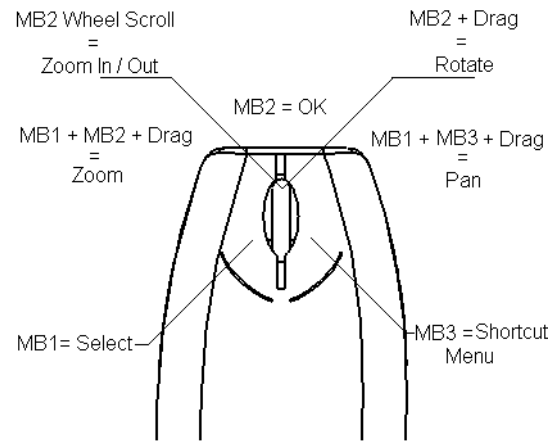

Figure 1-10 Functions of the mouse buttons
3. Press and hold the middle mouse button and then click the right mouse button to invoke the **Pan** tool. Next, drag the mouse to pan the model. You can also invoke the **Pan** tool by first pressing and holding the SHIFT key and then pressing and holding the middle mouse button. Figure 1-10 shows the use of a three button mouse in performing the pan functions.
4. Press and hold the middle mouse button to invoke the **Rotate** tool. Next, drag the mouse to dynamically rotate the view of the model in the geometry area and view it from different directions. Figure 1-10 shows the use of the three button mouse in performing the rotate operation.
5. Press and hold the CTRL key and then press and hold the middle mouse button to invoke the **Zoom** tool. Alternatively, press and hold the right mouse button and then the middle mouse button to invoke the **Zoom** tool. Next, drag the mouse dynamically to zoom in or out the model in the geometry area. Figure 1-10 shows the use of the three button mouse in performing the zoom functions.